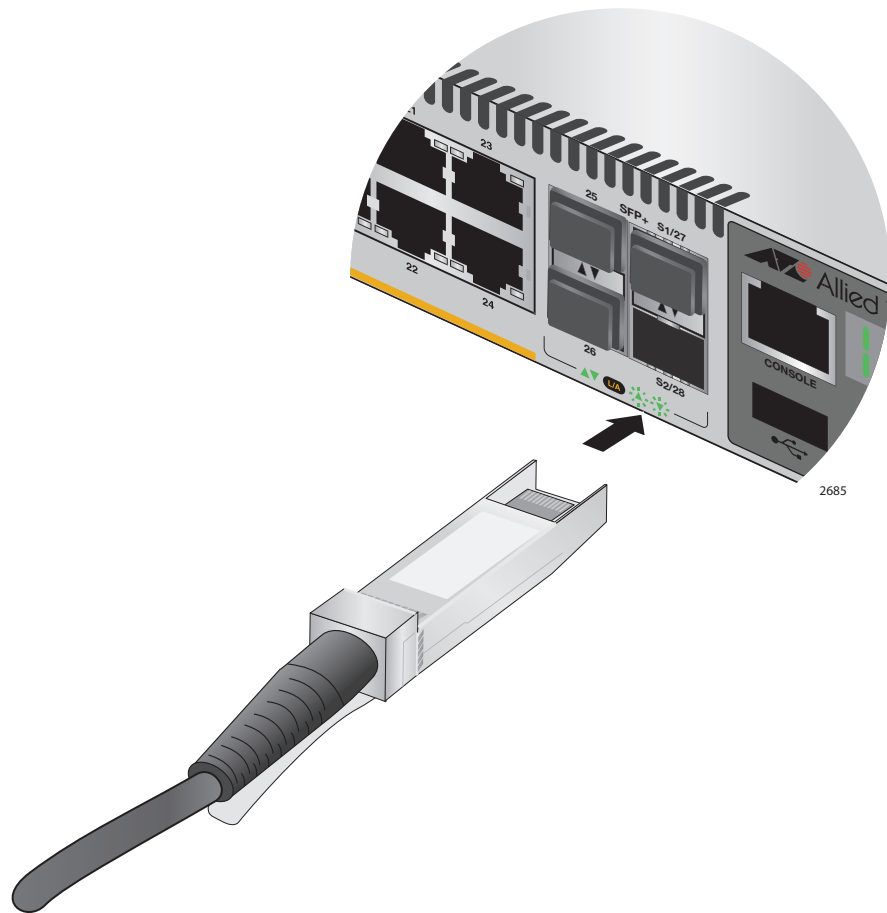

Figure 60. Installing the AT-StackXS/1.0 Transceiver in Slot S2
7. Position the transceiver with the release tab on the bottom and slide it into the slot until it clicks into place, as shown in Figure 60 on page 100.